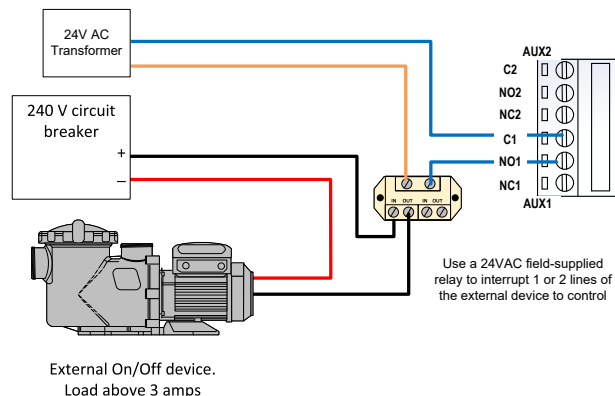

Figure 156. External Device Wiring to Auxiliary Output
- b. For applications over 3-amps, use a field-supplied relay rated to the amperage and voltage of your application, connected in cascade to the Auxiliary output of the heater. See Figure 156.